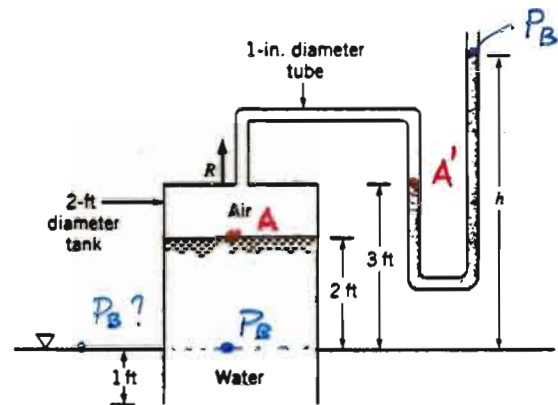

FIGURE P2.30
2.30 An inverted open tank is held in place by a force  $R$  as shown in Fig. P2.30. If the specific gravity of the manometer fluid is 2.5, determine the value of  $h$ .